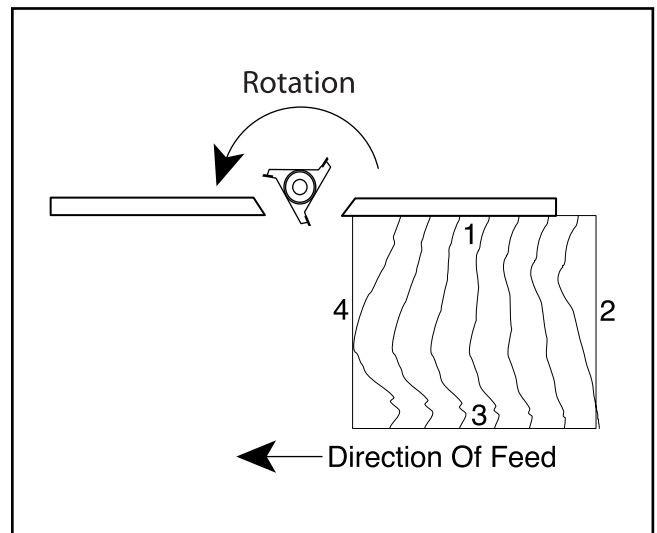

Figure 39. Sequence for multiple cuts.
5. Always cut the end grain first when putting an edge around the perimeter of your workpiece. **See Figure 39.**